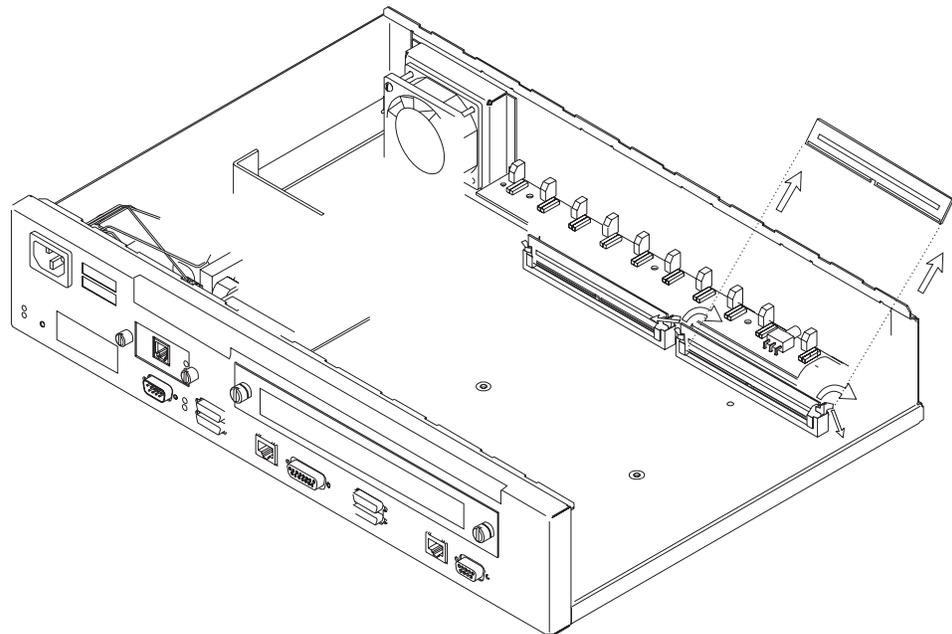

Figure A-10. Removing the Flash SIMM (14T and 24x Models)
- 2** As you face the machine the DRAM SIMM is located in the left slot. To replace the DRAM SIMM you must remove the existing DRAM SIMM and install the replacement. The Flash SIMM location is shown in Figure A-10 on page A-10